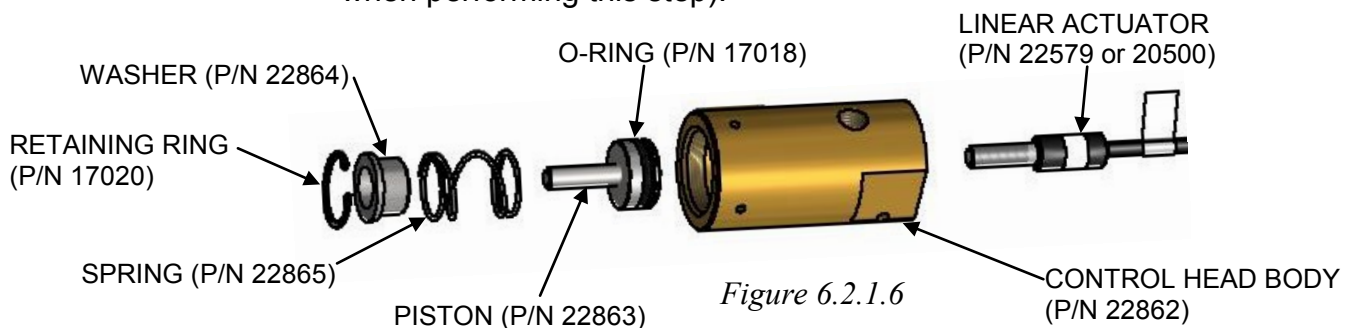

Figure 6.2.1.6
13. Insert Washer (P/N 22864) in the direction as shown on Figure 6.2.1.6.